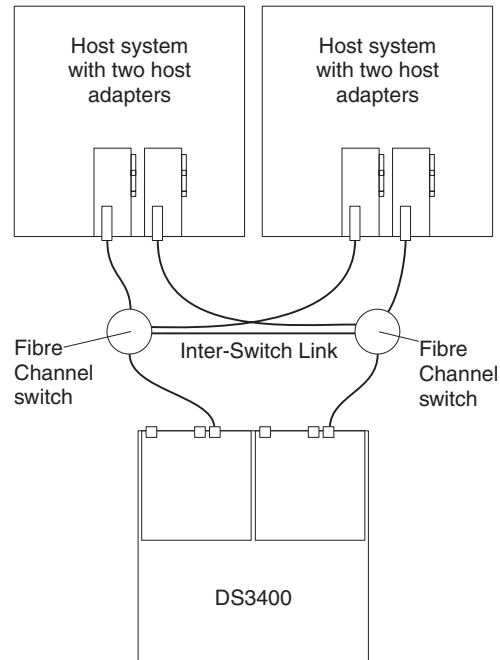

Figure 46. Example of a single SAN fabric configuration
- Single SAN fabric configuration, as shown in Figure 46 on page 53
In Figure 46, the Fibre Channel switches are connected together through the Inter-Switch Link (ISL) to form a single SAN fabric.